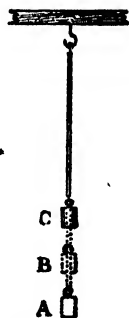

FIG. 217.—
At the extremes of the swing the thing that vibrates has potential energy and no kinetic energy (it is still); at the middle of its swing it has kinetic energy and (within the limits of movement of the particle) no potential energy. This is not only true of pendulums but also of springs and many other vibrators. Tie a bit of elastic (raid a workbox for it) to the curtain rod. A yard of narrow elastic will do excellently. Hang a half-pound weight on it, pull the weight down (Fig. 217) and let it spring back. The weight vibrates up and down. In this case the potential energy of the stretched elastic (A) becomes the kinetic energy of the moving weight (B), and as this travels on it loses speed under the influence of gravity until it stops at (C), where it has no kinetic energy, but instead the potential energy due to its height. It starts to fall, speeds up and is drawn to a stop in the original (A) position by the elastic force of the rubber. This would repeat itself *ad infinitum* were it not that the stretching and unstretching of the rubber turns energy into heat: the resistance of the air also has its effect. This idea of a vibration being the change of potential energy to kinetic and back to potential again and so forth is very important and can be applied to every sort of vibration. Think how it applies to a seesaw, to a violin string, to a ball allowed to run down the side of a basin.